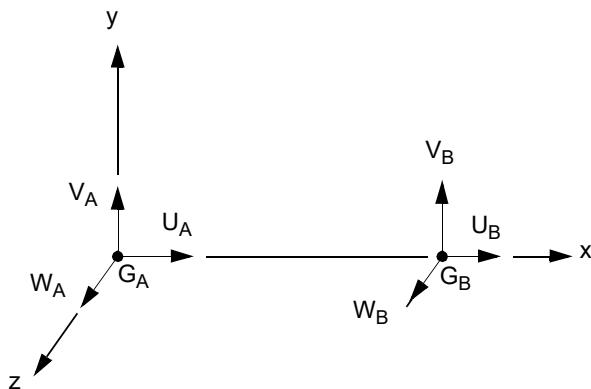
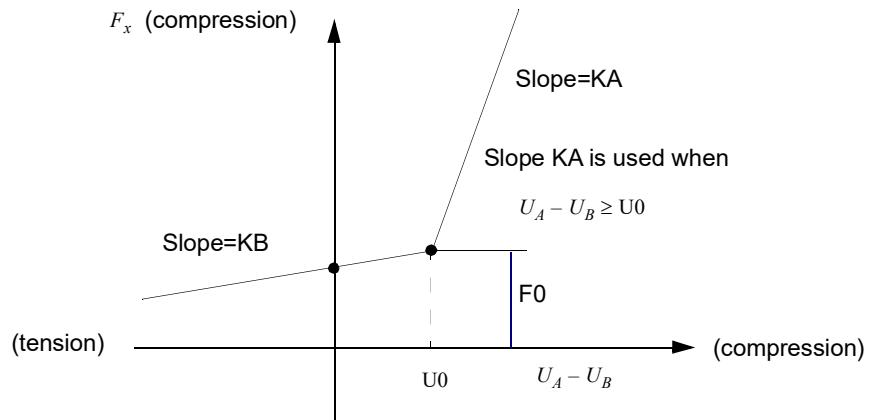
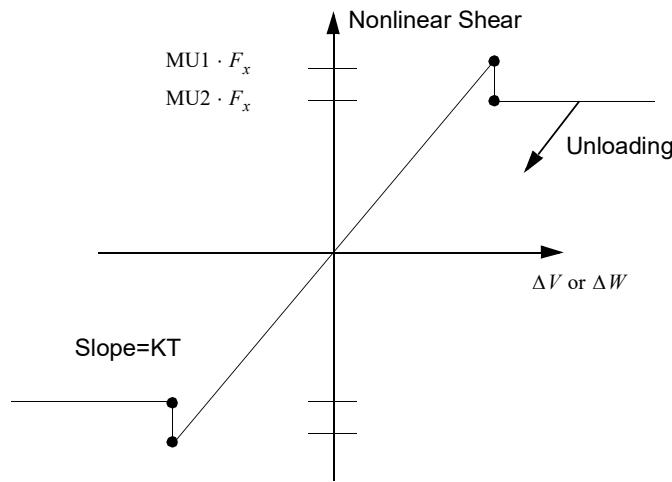

Figure 9-135 The CGAP Element Coordinate System
Figure 9-136 CGAP Element Force-Deflection Curve for Nonlinear Analysis
Figure 9-137 Shear Force for CGAP Element
U0	Initial gap opening. See Figure 9-136 . (Real; Default = 0.0)
F0	Preload. See Figure 9-136 . (Real \geq 0.0; Default = 0.0)
KA	Axial stiffness for the closed gap; i.e., $U_a - U_b > U0$. See Figure 9-136 . (Real > 0.0)
KB	Axial stiffness for the open gap; i.e., $U_a - U_b < U0$. See Figure 9-136 . See Remark 2. (Real \geq 0.0; Default = $10^{-14} \cdot KA$)
KT	Transverse stiffness when the gap is closed. See Figure 9-137 . It is recommended that $KT \geq (0.1 \cdot KA)$. (Real \geq 0.0; Default = $MU1 \cdot KA$)
MU1	Coefficient of static friction (μ_s) for the adaptive gap element or coefficient of friction in the y transverse direction (μ_y) for the nonadaptive gap element. See Remark 3. and Figure 9-137 . (Real \geq 0.0; Default = 0.0)
MU2	Coefficient of kinetic friction (μ_k) for the adaptive gap element or coefficient of friction in the z transverse direction (μ_z) for the nonadaptive gap element. See Remark 3. and Figure 9-137 . (Real \geq 0.0 for the adaptive gap element, $MU2 \leq MU1$; Default = $MU1$)
1. Figure 9-135, Figure 9-136, and Figure 9-137 show the gap element and the force-displacement curves used in the stiffness and force computations for the element.
3. When the gap is open, there is no transverse stiffness. When the gap is closed and there is friction, the gap has the elastic stiffness (KT) in the transverse direction until the friction force is exceeded and slippage starts to occur.